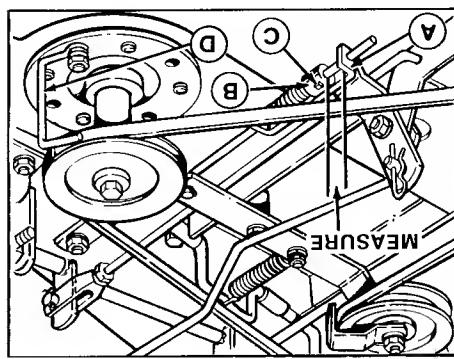

Figure 28. Drive Belt Tension
Using the height control lever, place the mowbar in highest cutting position. Place the PTO lever in engaged position. The gap between the rod guide (A, figure 28) and the set collar (B) should measure $3/8$ to $1/2$ inch (10 to 13 mm). If not, disengage the PTO. Loosen the set screw (C). Move the rod forward to increase the gap or back to decrease the gap when tighten the set screw. Engage the PTO and recheck the adjustment. Readjust if necessary.